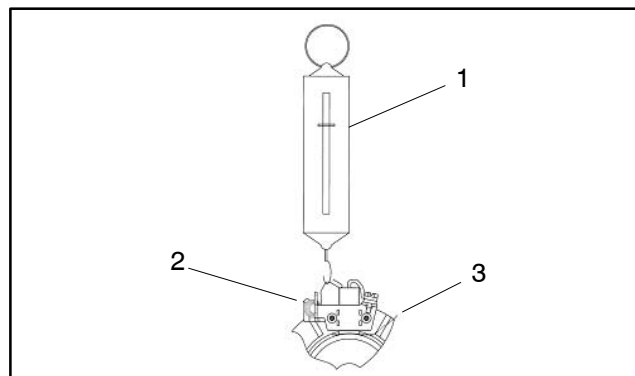

Figure 59
5. Brush springs should be checked for proper tension using the following procedure (Fig. 59):